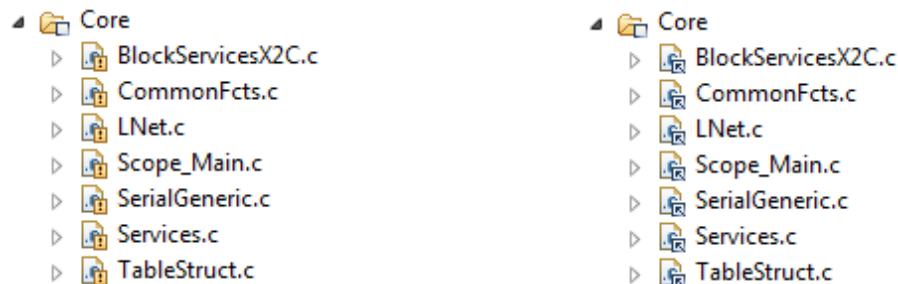

Figure 26: *Code Composer Studio* invalid (left) and valid (right) X2C root directory
3. In the *Code Composer Studio* file structure of the *Blinky* demo project there are two virtual folders *Blocks* and *Core*, which should be linked directly to the X2C directory. To ensure this go to **Project** → **Properties** drop down **Resource** and click **Linked Resources**. Double click on folder **X2C_ROOT** and set the correct link to your X2C installation directory (<X2C_ROOT>). After hitting **OK** two times there should not be any warning signs (like shown in Figure 26) at the icons for the linked files in the *Blocks* and *Core* folders.